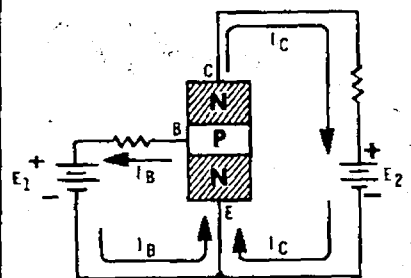
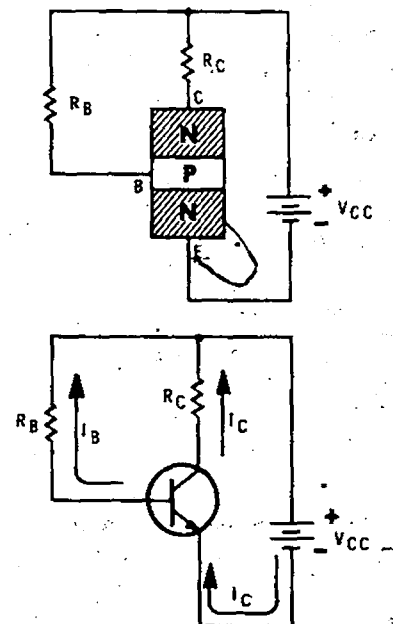

Figure 2-15
Figure 2-16 Simple voltage
20. (Yes) The transistor will conduct. Figure 2-15 shows the current paths.
In Figure 2-15 what is the relationship between the various currents flowing?
Since both bias voltages  $E_1$  and  $E_2$  are positive with respect to the emitter as shown in Figure 2-15 then they can be replaced by a single supply battery as shown in Figure 2-16. The result is proper bias for conduction at a considerable savings in the power supply.
In Figure 2-16